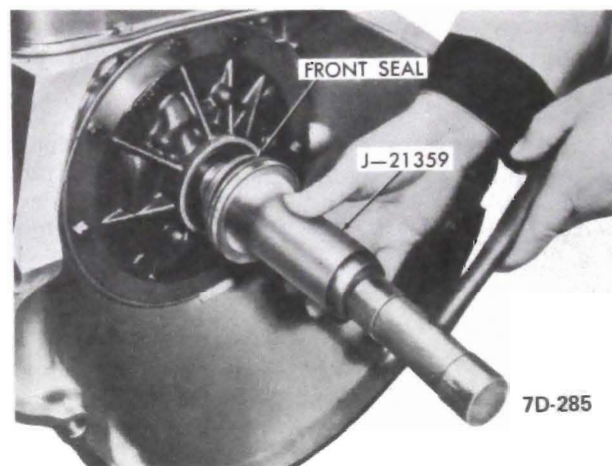

Figure 7D-209
23. Check front unit end play as follows: See Figure 7D-210.